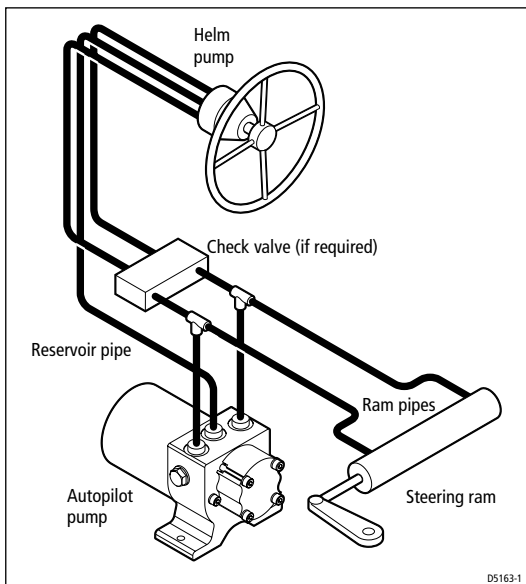

Figure 5: Autopilot pump location for two line systems
- If the boat has a single helm pump system **without** check valves, you must incorporate a double pilot check valve (part number M81166) as shown in *Figure 5*.
- A double pilot check valve may also be necessary on long tubing runs - otherwise tubing expansion may cause poor autopilot performance. Install the check valve as shown in *Figure 5*.
Figure 5 shows a typical two line steering system. Hydraulic fluid flows into the ram in either direction, depending on the direction the helm pump rotates. Connect the autopilot pump to the steering system as shown in *Figure 5*.